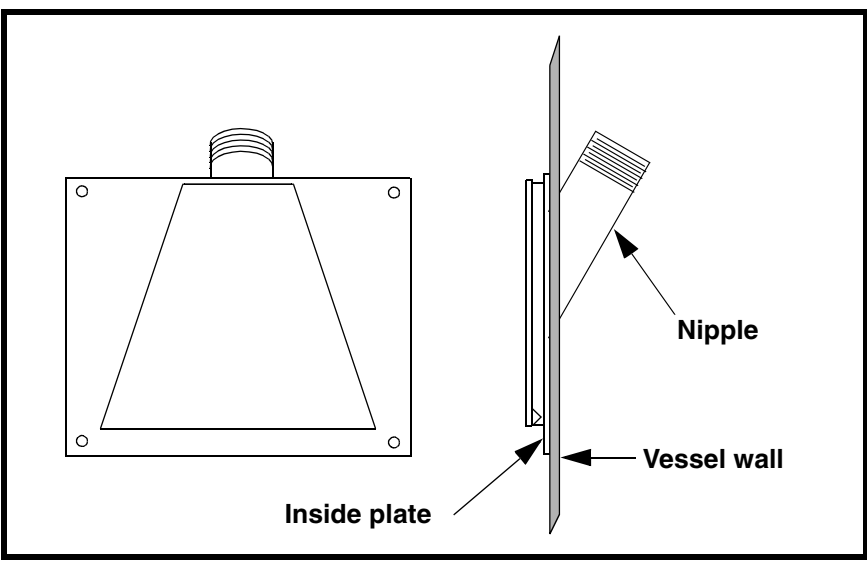

Figure 7. Fan Jet Mounting Plate
- c. If using a fan jet mounting plate (Figure 7), cut a round hole in storage vessel for each mounting plate. Slide nipple through hole from inside. Field weld inside plate and nipple to vessel wall.